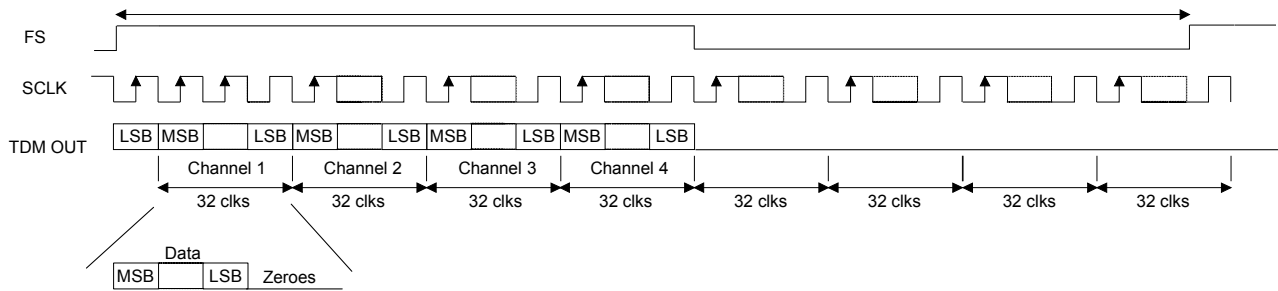

Figure 12. TDM Format
In TDM Mode, all four channels of audio data are serially clocked out during a single Frame Sync (FS) cycle, as shown in Figure 12. The rising edge of FS signifies the start of a new TDM frame cycle. Each channel slot occupies 32 SCLK cycles, with the data left justified and with MSB first. TDM output data should be latched on the rising edge of SCLK within time specified under “Serial Audio Interface - TDM Timing” section on page 16. The TDM data output port resides on the SDOUT1 pin. The TDM output pin is complimentary TDM data. All SDOUT pins will remain active during TDM Mode. Refer to Section 4.11 “Optimizing Performance in TDM Mode” on page 29 for critical system design information.